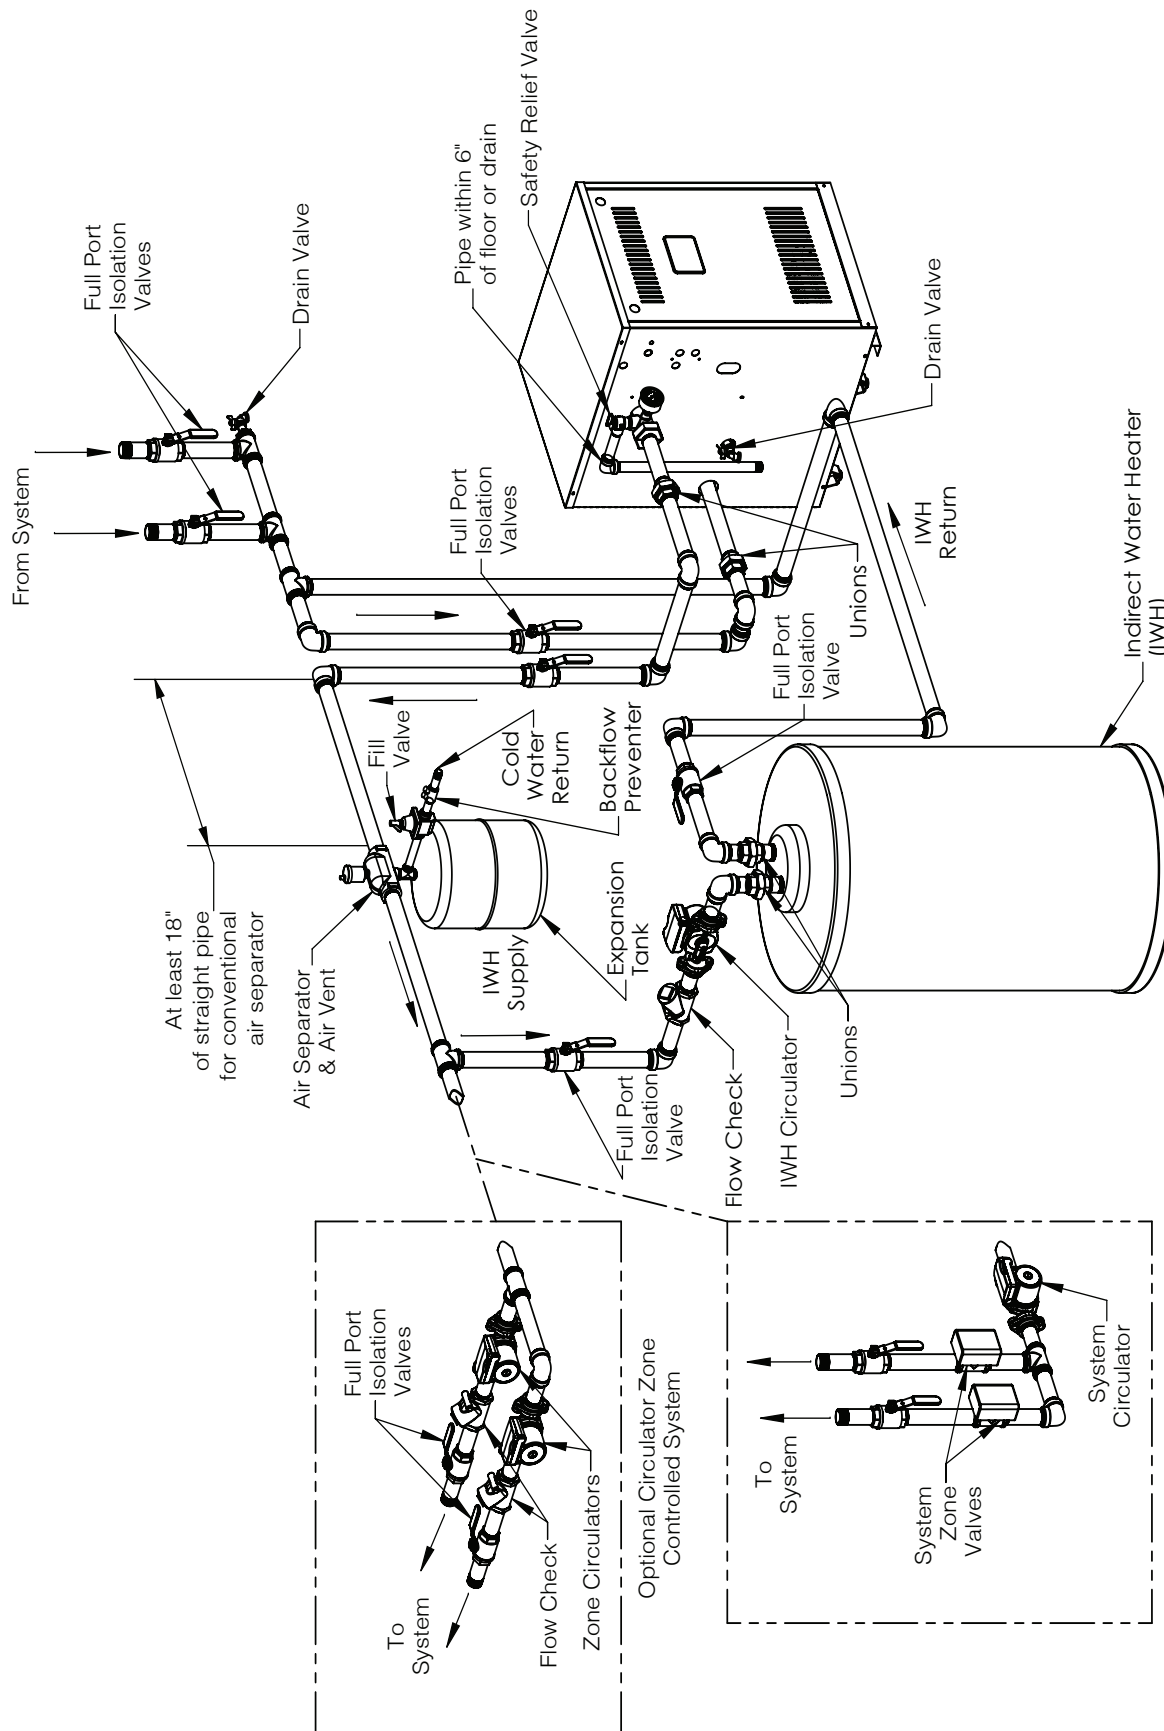

Figure 6-2: Recommended Water Piping for Direct Connection Systems
4. Attach hose to drain valve located on return piping (see Figure 6-2 and 6-3). Note-Terminate hose in five gallon bucket, at a suitable floor drain, or outdoor area).